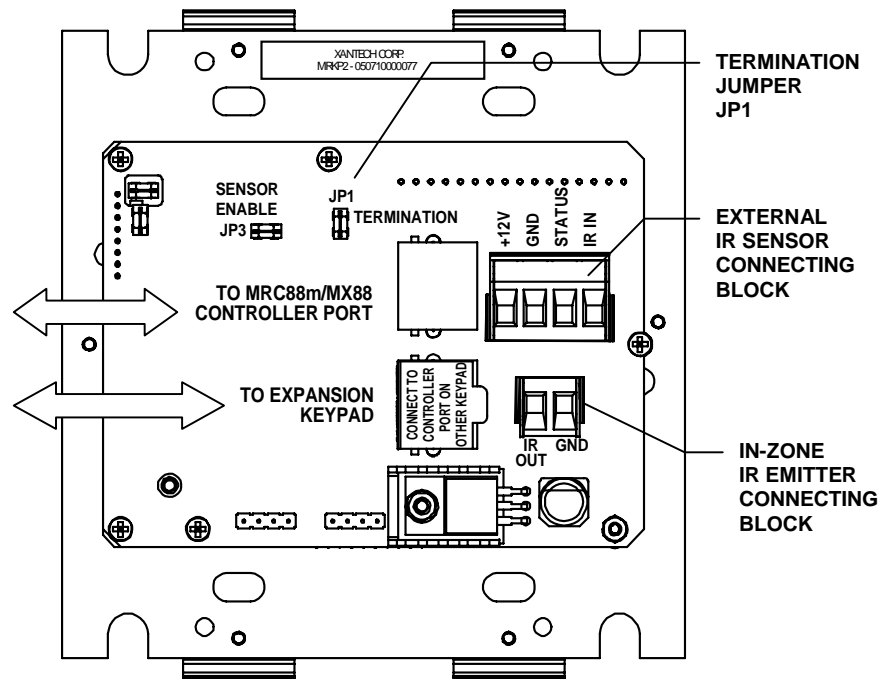

Figure 2.4: Rear connector board of MRKP2 Keypad
1. There are four keypads maximum per zone. Remove termination jumper on all keypads except for the last keypad (see location of JP1 on Fig 2.4). Each expansion keypad must each have its own unique address. (see Installer Settings menu on Section 4 of this manual).